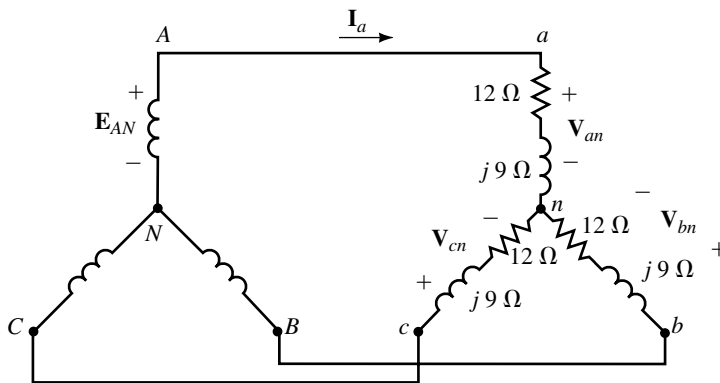

FIGURE 23–46
7. For the load of Figure 23–46, $\mathbf{V}_{an} = 347\ \text{V}\angle 15^\circ$. Determine all line currents. Sketch their phasor diagram.
8. For the load of Figure 23–46, if $\mathbf{I}_a = 7.8\ \text{A}\angle -10^\circ$, determine the phase voltages and line voltages. Sketch their phasor diagram.